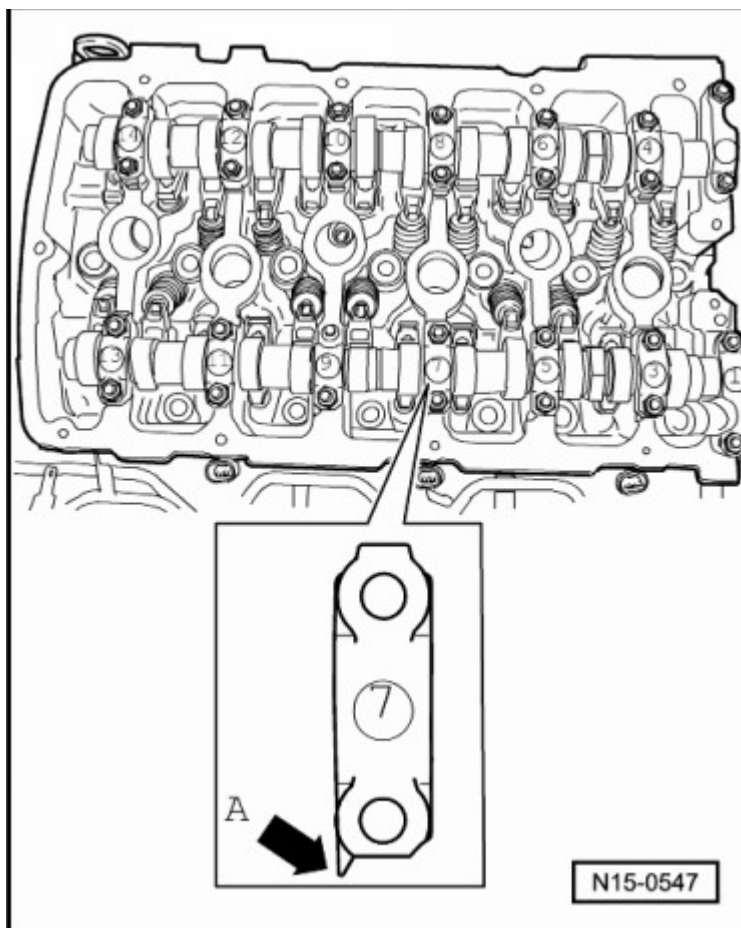

Fig. 14: Identifying Points Of Intake And Exhaust Camshaft Bearing Cap Face Outwards
- Installed location, refer to **Fig. 14**